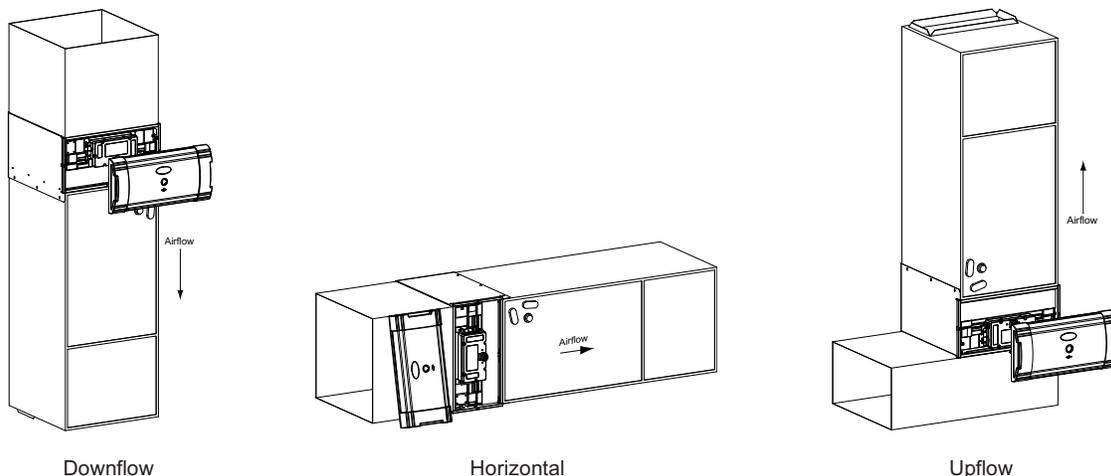

Fig. 4 - Infinity® Air Purifier Cabinet Orientation
- Identify a mounting orientation for the Infinity® Air Purifier in the return air duct (see Fig. 4).
- Position the cabinet between the fan coil and return air duct (see Fig. 4 and 5). A transition duct may be required.